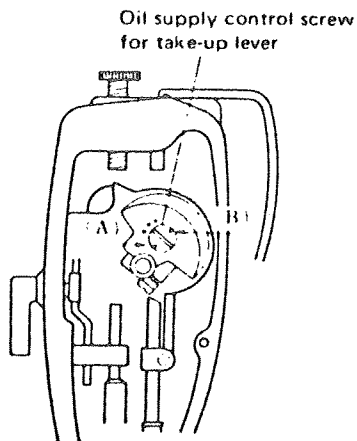

Fig. 14
- (2) Oil supply to the take-up lever can be adjusted by the control screw shown in Fig. 14. The oil supply is maximum when the spot marked on the control screw is at the "A" Position and minimum at "B" Position.